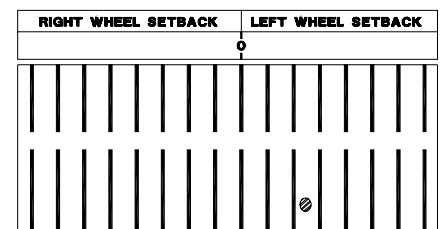

Figure 4
3. Beam image below and right of zero (Figure 4)